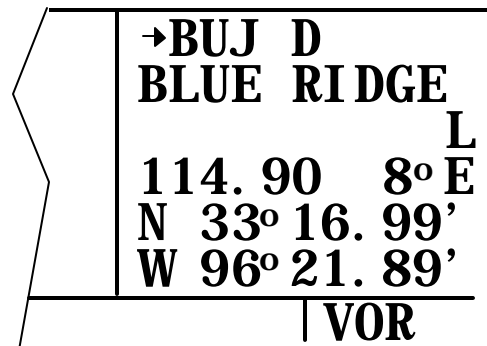

Figure 3D-25. VOR Page
a. VOR Page Display. Refer to Figure 3D-25.
(2) The letter D displays following the VOR identifier if the VOR has DME capability.
(3) The name of the VOR.